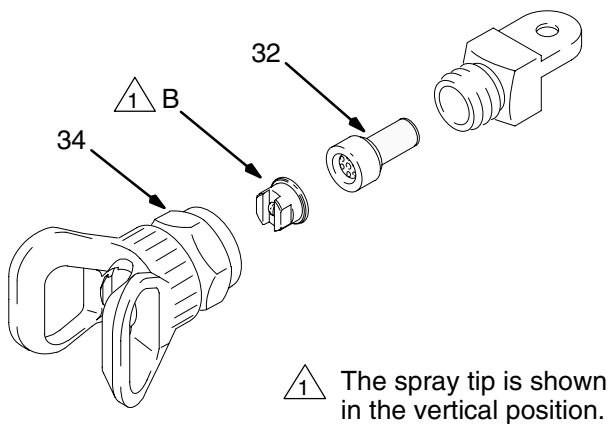

Fig. 3
3. Turn the spray tip so the groove is horizontal for a horizontal spray pattern and vertical for a vertical pattern. See Fig. 3.
3. Remove the tip (B) and the filter (32). See Fig. 3.